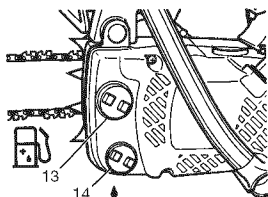

Fig. 8
#### ⚠ WARNING! (Fig. 8)
#### Chain oil (Fig. 8)
When pouring fuel (13) or chain oil (14) into the tank, place the unit with cap side up. (Fig. 8)